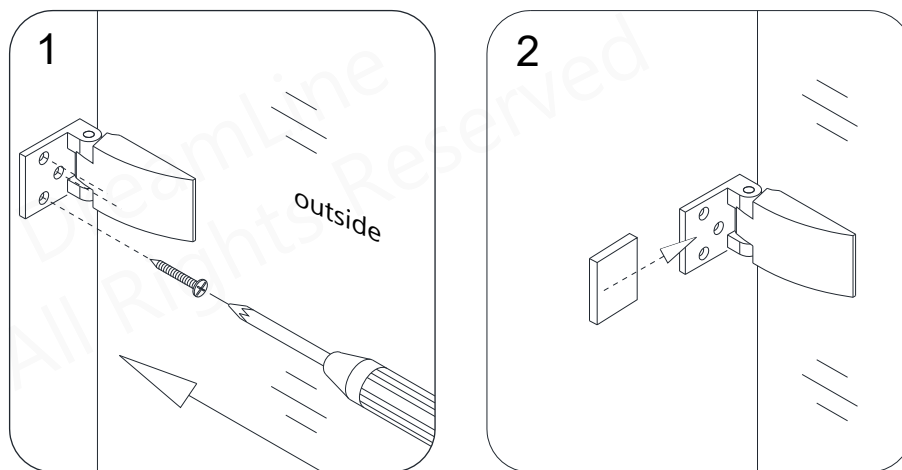

Fig 4
4. Place the **Door Glass (#01)** back into position onto the 1/2" shims on the tub deck and secure the **Hinges (#05)** to the wall using the **Flat head screw ST4.2×60 (#04)**. Snap the decorative covers back onto the wall plates (**Fig 4**)